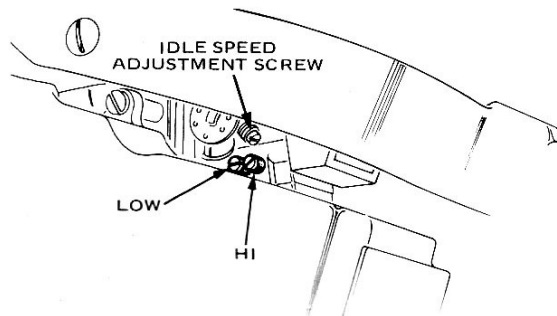

FIGURE 26
3. The high speed adjustment needle, marked H on the side of the casting is the rear-most of the two adjustment needles located on the left side of the motor, and controls the fuel mixture when throttle is fully open. See Figure 26.